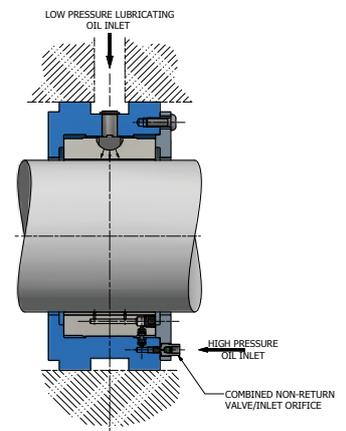

Fig 12 Hydrostatic jacking – Style J
- b. Load at instant of start** – at this condition the specific load* for a TJ series bearing should not exceed 1.4 MPa for on pad loading or 2.2 MPa for between pad loading. For a TF series bearing the loading should not exceed 2.0 MPa for between pad loading. If these loads are exceeded the application may need either a larger bearing (to reduce the specific load) or the use of a hydrostatic (‘jacking’) system for use at starting and low speed: see Pg. 18 – Style J and Fig 12.
Bearings can be supplied with hydrostatic jacking in cases where there is a high load at the instant of start (see Pg. 10 – Load Capacity). Waukesha will specify the required oil supply quantity and pressure for the hydrostatic system when given the starting load conditions. See Fig 12 for a typical installation arrangement.